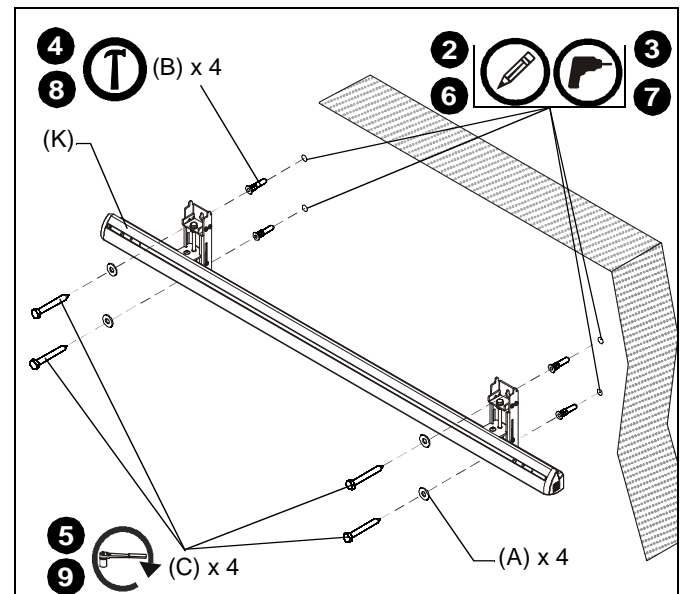

Figure 6
2. Using a level, mark the wall above existing chalkboard through top mounting hole in the wall assembly (K). (See Figure 6)
3. Drill one 1/4" x 2-3/4" pilot hole at each marking. (See Figure 6)
4. Install an anchor (B) into each pilot hole using a hammer. (See Figure 6)
5. Use two 1/4-20 x 2-1/2" lag bolts (C) and two 1/4" flat washers (A) to attach wall assembly (K) to anchors in wall. (See Figure 6)
6. Mark the wall through the lower mounting hole in the wall assembly (K). (See Figure 6)
7. Drill one 1/4" x 2-3/4" pilot hole at each marking through lower mounting hole in wall assembly (K). (See Figure 6)
8. Install an anchor (B) into each pilot hole using a hammer. (See Figure 6)
9. Use two 1/4-20 x 2-1/2" lag bolts (C) and two 1/4" flat washers (A) to attach wall assembly (K) to anchors in wall. (See Figure 6)